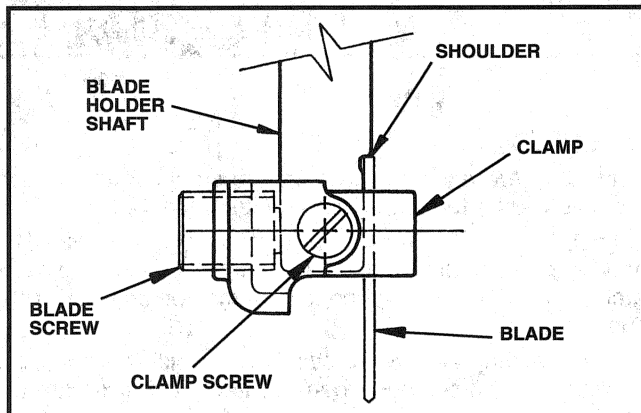

Fig. 4
2. Insert screwdriver behind blade holder shaft, (see Fig. 4), and move shaft forward to allow assembly of clamp. Position clamp on blade holder shaft as shown in Fig. 4, and tighten clamp screw; then loosen clamp screw ¼ turn.
3. Install “universal” blade (with teeth facing forward) until top of blade contacts shoulder, Fig. 4.